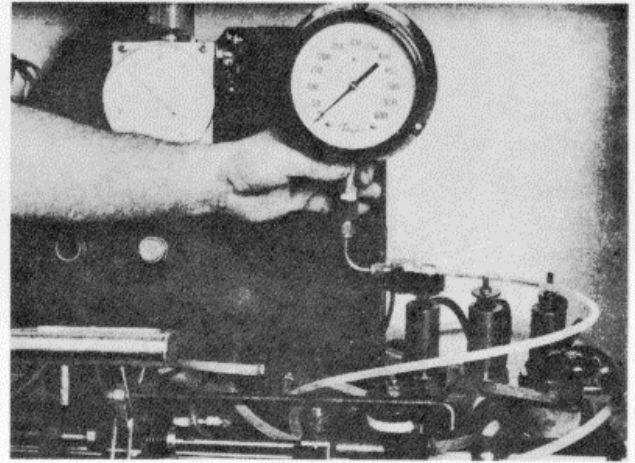

Figure 16H-103. Gear Pump Test Hook-Up
2. Connect the Pressure Gauge in the audit kit, adapter and valve to the nylon hose. Close the valve, Figure 16H-103.